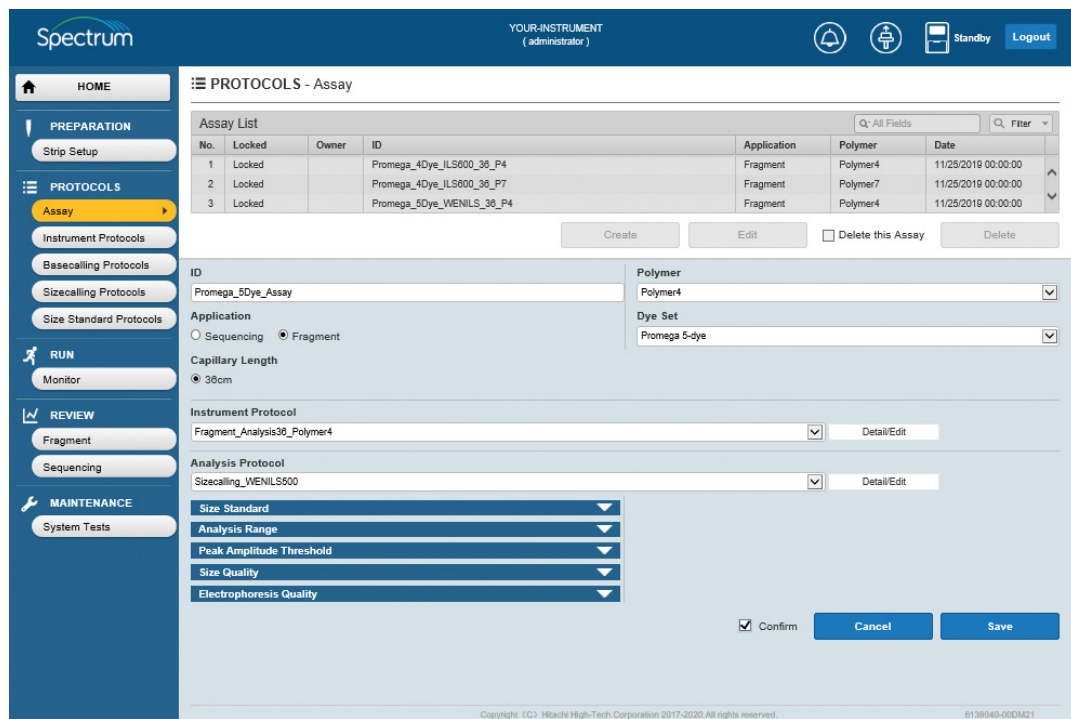

Figure 76. Saving a new assay.
- Check the **Confirm** box, and then select **Save** (Figure 76). If no errors are detected “Normal End” in a green horizontal box will appear on the screen. If errors are detected, either “Invalid data entered” or “The value is out of range” will appear in a red horizontal box and the software will indicate where the error is occurring.